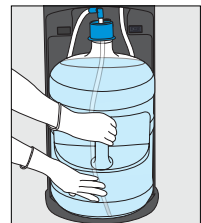

Figure 8
- (9) Slide bottle into cabinet (Figure 8) and close the door (slide door downwards to close)